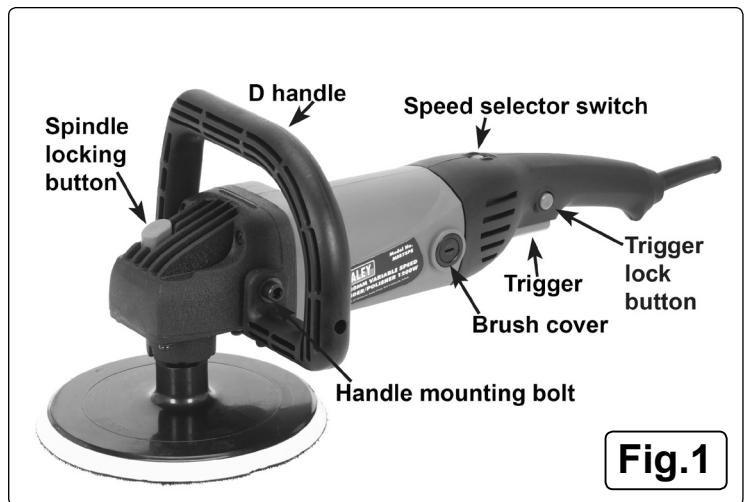

Fig.1
Refer to fig.1
- 5.1. Hold the sander/polisher firmly with one hand on the handle grip and the other on the side/D-Handle. To select the required speed rotate the speed selector switch, see fig.1, to the required speed.
- 6.3. Check carbon brushes by removing brush cover on each side, see fig.1. Check to see if the brushes are worn or if cracked. If so, the brush must be replaced to avoid sparking and damage to the armature. Use only genuine spare parts as these are specifically designed for the machine. Failure to do so may be dangerous and will invalidate your warranty.